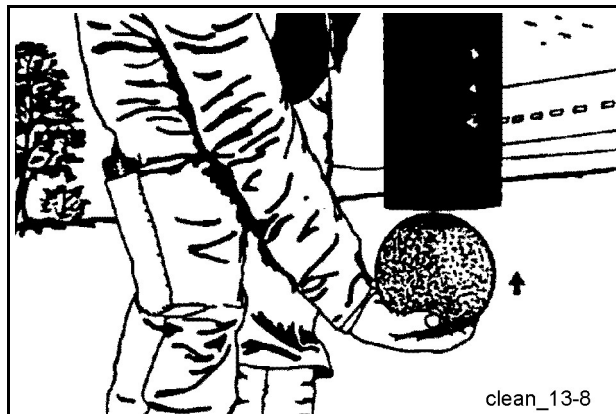

Fig. 117 Sponge rubber ball
- First push the damp sponge rubber ball into the end hose **(Fig. 117)**, then switch the concrete pump to "Suction" (reverse running) with a lower stroke rate.